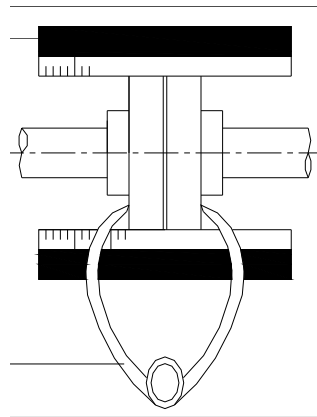

Figure 3 *Aligning of the coupling for SM*
1. Place a ruler (A) on the coupling. The ruler should touch both coupling halves across the whole width. See figure 3.
3. For all security the alignment is also checked with a pair of outside calipers (B) at 2 diametrically opposite points of the side surfaces of the coupling halves. See fig.3